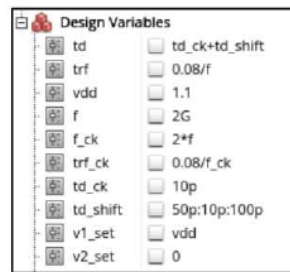

Figure 15. Setup parameters for intrinsic hold time measuring
- Set up variables as shown in **Figure 15** and vary **td_shift**, **v1_set** and **v2_set** to measure the intrinsic hold time